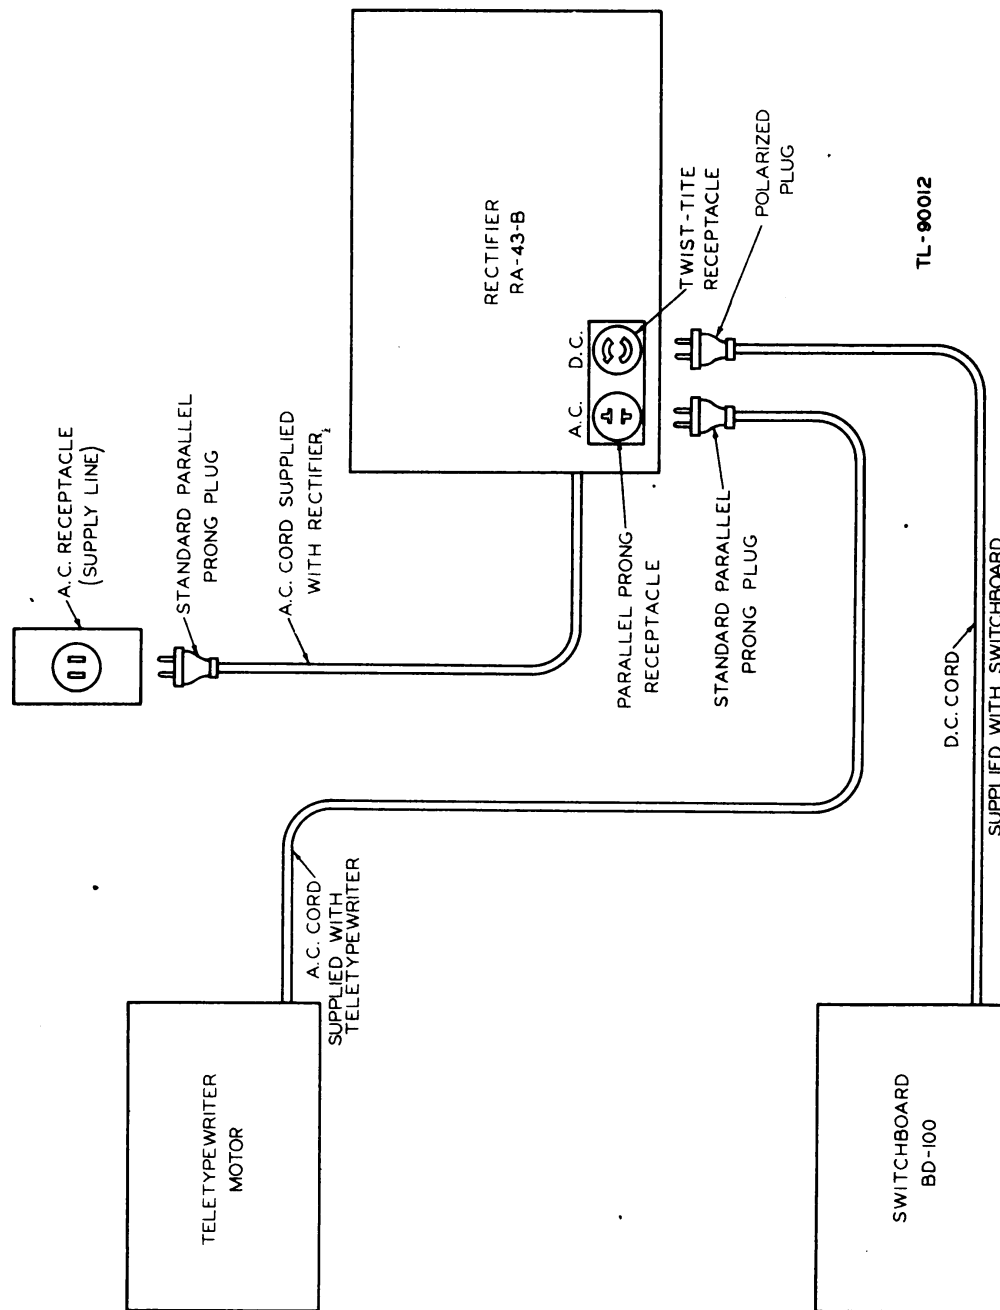

Figure 8. Rectifier RA-43-B, cording diagram.
*a.* Carry Rectifier RA-43-B by the handles on Case CS-82-B, place it in a location convenient to Switchboard BD-100, with which it is to be used, and to the a-c outlet to which it is to be connected (fig. 8). Open the four catches at the bottom of Case CS-82-B and remove the upper portion of the case.
*a.* Insert the plug on the a-c cord (attached to Rectifier RA-43-B) in supply-line receptacle (fig. 8).